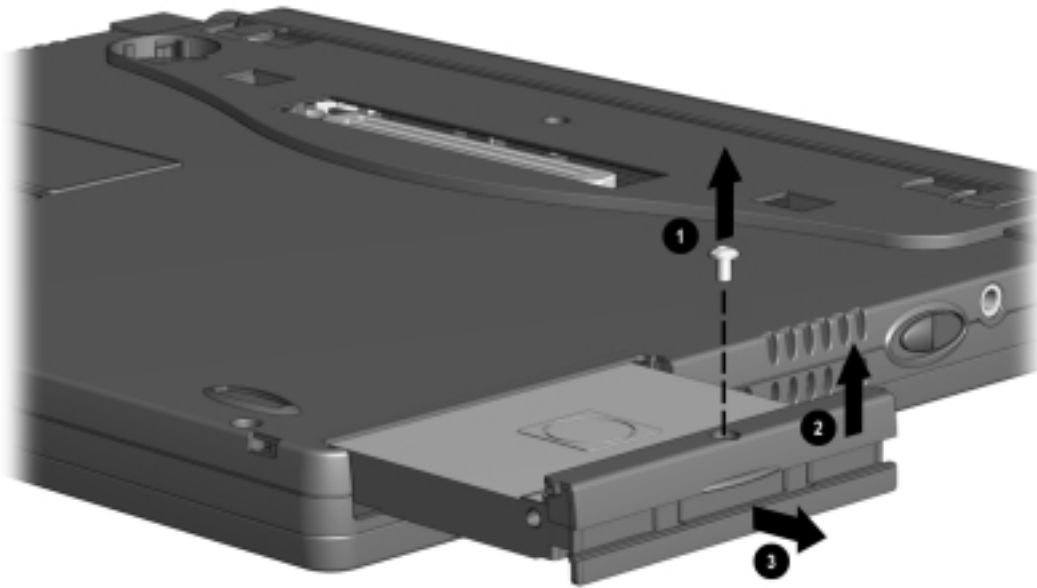

Figure 5-7. Removing a Hard Drive
3. Remove the hard drive screw ❶ (Figure 5-7).
4. Pull up on the front bezel ❷.
5. Slide the hard drive out of the bay ❸.